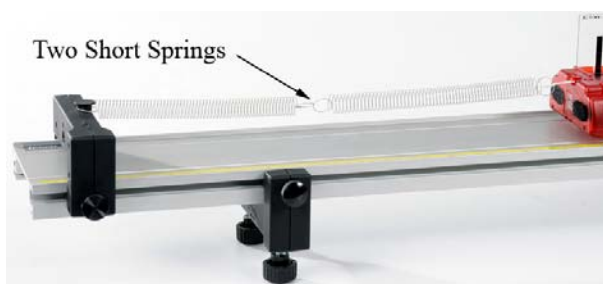

Figure 9: Using Short Springs
8. Replace one of the weak long springs with two of the weakest short springs as shown in Figure 9. The weak short springs are the ones without the blue paint.